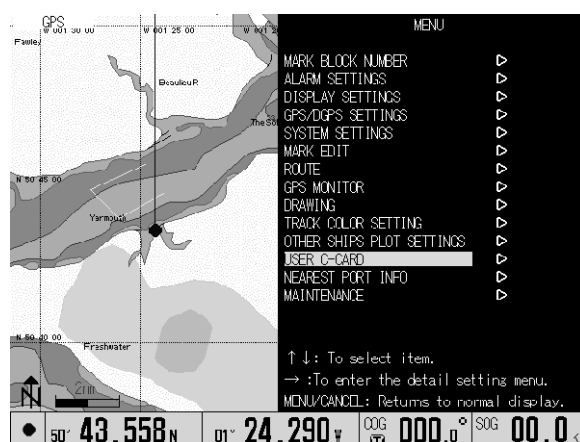

Figure 6.66 MAIN MENU
- (1) Press the MENU key to display the Main menu.
- (2) Press the Joystick up or down to highlight "USER C-CARD."
- (3) Press the Joystick to the right to enter its sub menu. (Figure 6.66)